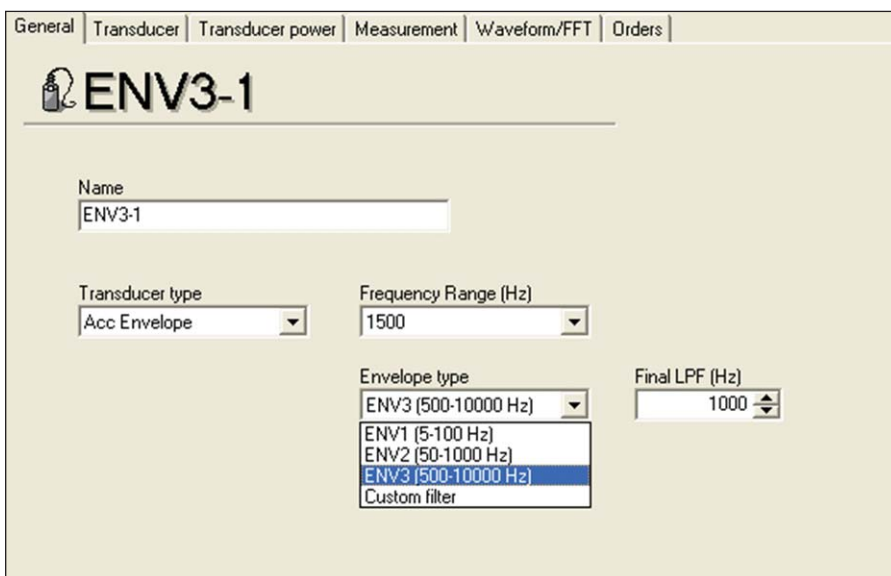

Figure 6. Acceleration Enveloping selection in SKF Multilog DMx Manager Software – ENV 3.
- The accelerometer signal and ground lines are jumpered to the input of second channel pair on SKF Multilog DMx 2, to perform acceleration enveloping monitoring. In this case the ENV 3 filter is selected in SKF Multilog DMx Manager software – see Figure 6. The transducer power on this pair is switched off.